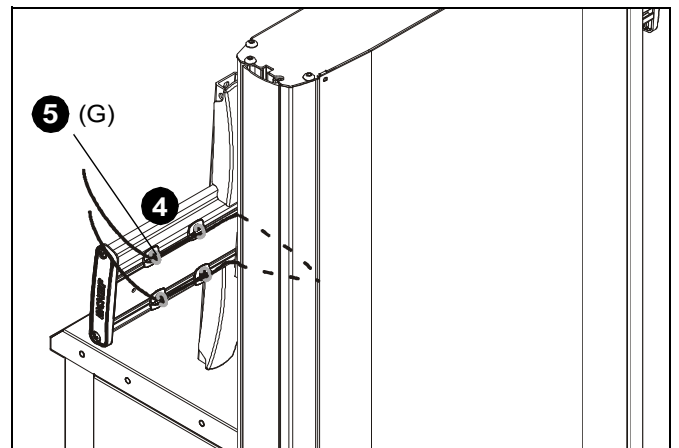

Figure 13
4. Route cables along FCA clips (F) to be used for cable management. (See Figure 13)
5. Use cable ties (G) to secure cables to FCA clips (F). (See Figure 13)